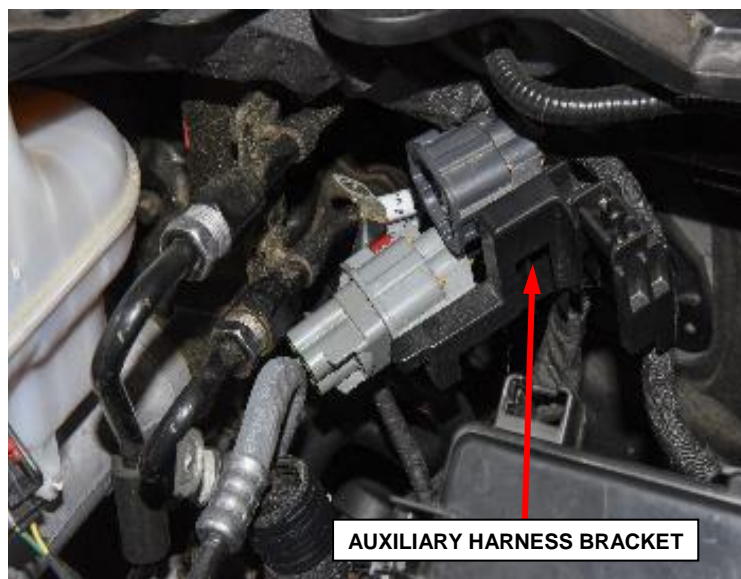

Figure 11 – Auxiliary Harness Bracket
12. Remove the auxiliary harness bracket from the auxiliary PDC by pressing the lock tab and pulling the bracket upward. Roll the auxiliary PDC forward into the open space of the battery tray (Figure 11).